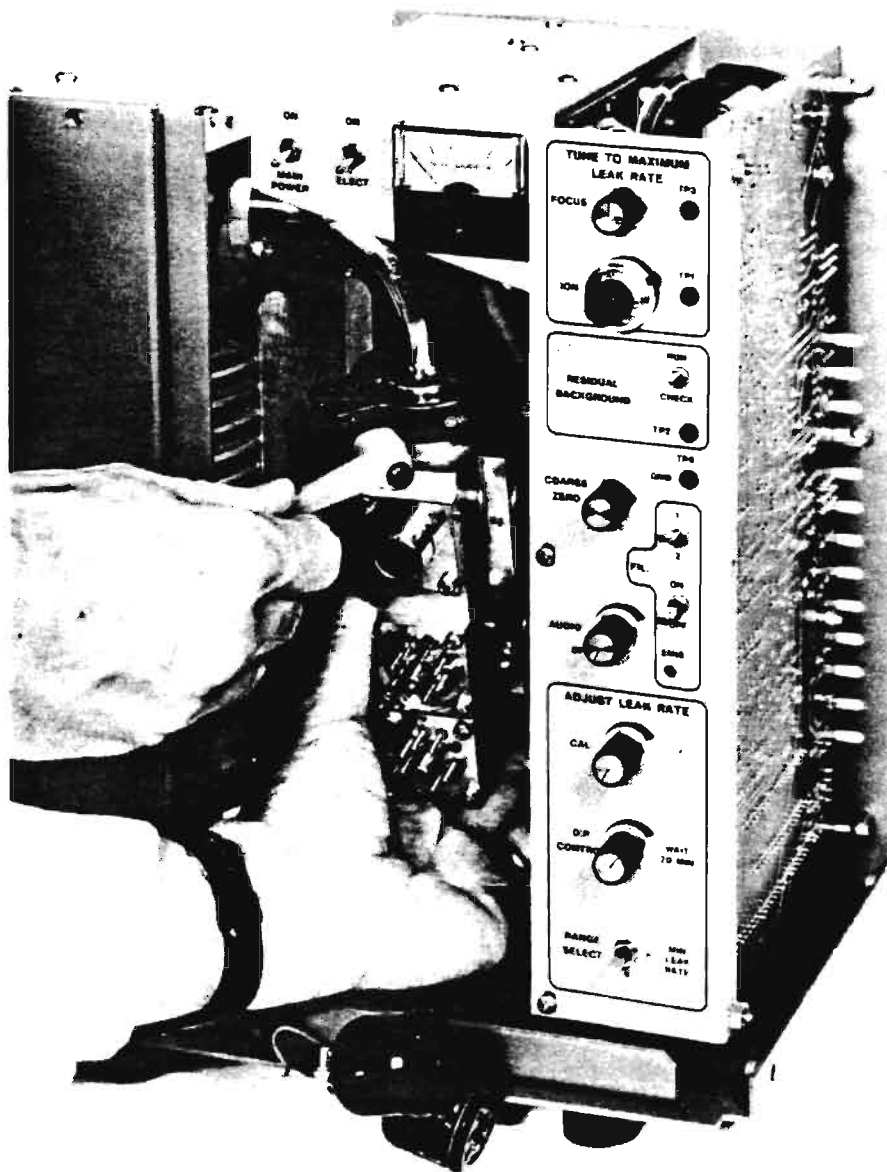

Fig. 4-9. Spectrometer Tube Removal By Releasing KF Clamp
7. Install spectrometer tube (Fig. 4-9). Hold it at an angle, as shown. Attach the tube, using the KF flange.
4. Remove KF flange (Fig. 4-9) on spectrometer tube and break vacuum connection. This is the SERVICE VENT position (Fig. 4-11A).